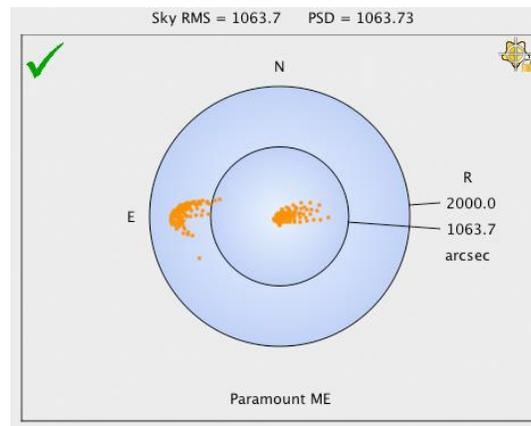
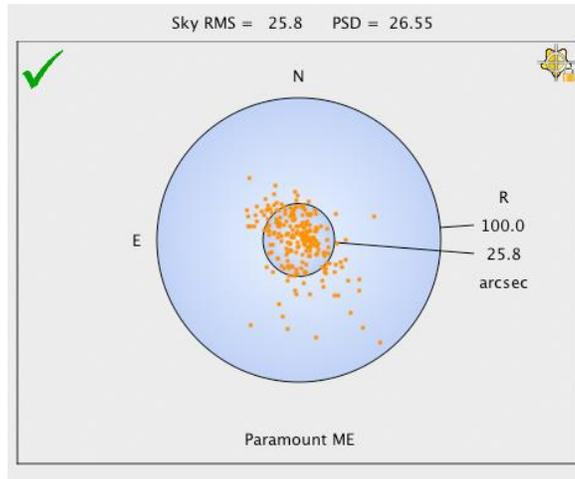

Figure 3: Pointing samples with no TPoint terms.
Figure 4: Sample RMS pointing after TPoint model.
Figure 3 and Figure 4 show scatter plots of calibration data collected using a Paramount ME Robotic Telescope Mount. The blue shaded region represents the sky and the orange squares are calibration points.
Figure 3 shows that, before *TPoint* corrections are applied, the RMS pointing is about 17 arcminutes. The two "groups" of pointing samples are typical for a German equatorial mount and highlight the significant pointing errors that occur when the optical tube assembly is placed on one side of the pier versus the other.
**Note the difference in scale between the graphs in Figure 3 and Figure 4.**
Figure 4 shows the scatter plot *after* the application of *TPoint*. The RMS pointing is under 30 arcseconds. The telescope will now routinely place objects in the same 10 x 15 arcminute field of view.